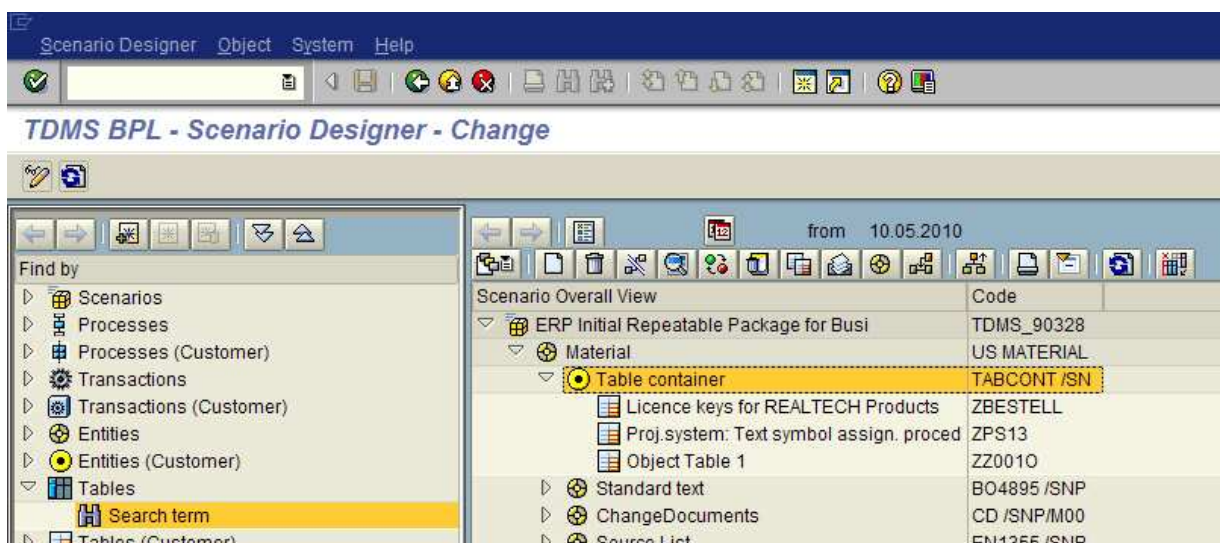

Figure 19: The tables selected via the *mass linking (tables)* functionality have been attached to the new entity
- Opening the node to the left of the new entity, you can see the selected tables attached (see Figure 19). They are displayed as customer tables  in contrast to the predefined tables . Repeat the *Mass Linking (Tables)* procedure, if applicable.